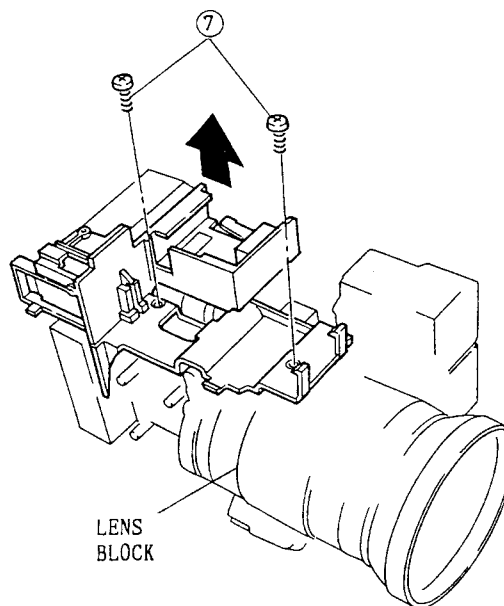

Fig. 2-101
7. Remove two (2) screws holding the titler circuit board holder. (See Fig. 2-101)